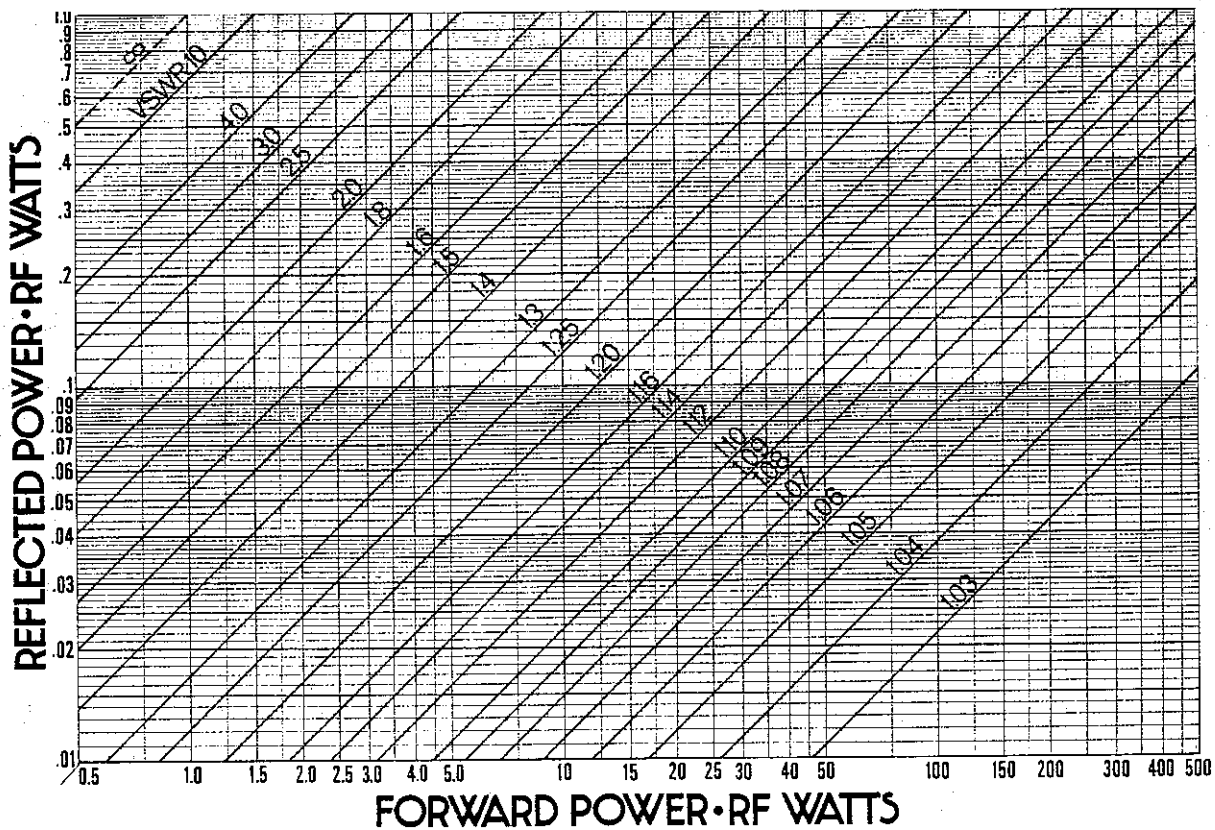

Figure 3-1. Power Values vs VSWR (Reflected Power 0.01 to 1.0 Watts)
- b. Refer to the appropriate graph, Figure 3-1 or 3-2, to convert the forward and reflected power readings to VSWR. Note that the graphs convert the readings directly to VSWR without any intermediate computations.